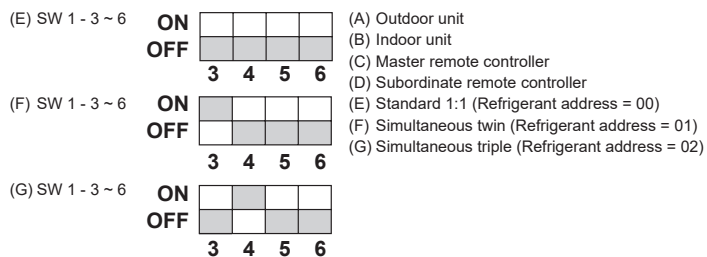

Fig. 9-1
- Because the unit automatically stops in about 2 to 3 minutes when the refrigerant collecting operation is completed (LED1 off, LED2 lit), be sure to quickly close the gas valve. If LED1 is lit and LED2 is off and the outdoor unit is stopped, refrigerant collection is not properly performed. Open the liquid valve completely, and then repeat step (2) after 3 minutes have passed.
9. System control (Fig. 9-1)